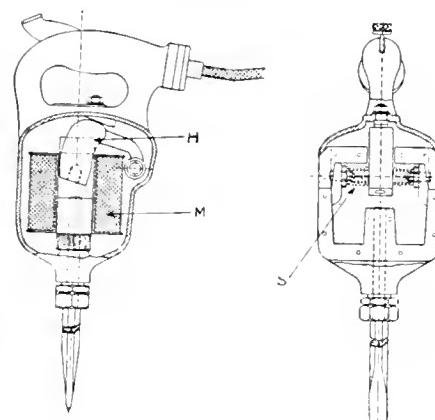

FIG. 1. ELECTROMAGNETIC HAMMER.
Electric drive has increased rapidly on all kinds of machine tools and is working into many new fields. One of the latest applications is in connection with small riveting hammers which are generally operated by compressed air. It is perfectly feasible to get the hammer blow by means of the electromagnet, but the difficulty has been to prevent sparking when the current is broken to allow the hammer to return to its first position ready for the next blow. L. Schueler, in the *Elek. Feit* for May, 1914, describes a method which he has used very successfully. The design is shown by Fig. 1. Only the hammer blow is produced by the electric current, as the armature H of the electromagnet (M) is carried back by a spring (S).